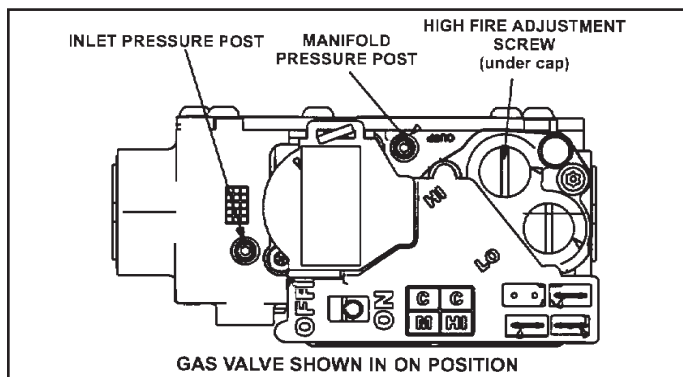

Figure 47. Gas Valve
6. Move gas valve switch to OFF. See Figure 47.
8. Move gas valve switch to ON. See Figure 47.
An inlet post located on the gas valve provides access to the supply pressure. See Figure 47. Back out the 3/32 hex screw one turn, connect a piece of 5/16 tubing and connect to a manometer to measure supply pressure. See Table 15 for supply line pressure.
A manifold pressure post located on the gas valve provides access to the manifold pressure. See Figure 47. Back out the 3/32 hex screw one turn, connect a piece of 5/16 tubing and connect to a manometer to measure manifold pressure.
5. Repeat on high fire and compare to value given in Table 15. If necessary, make adjustments. Figure 47 shows location of high fire and low fire adjustment screws.